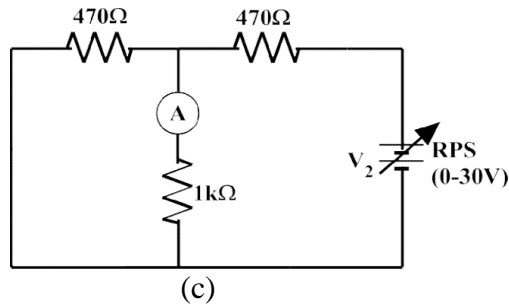

Fig2: Circuit Diagram for Superposition Theorem
1. Connect the circuit as shown in the Fig2(a), apply some input voltage V_1 and V_2 and observe the current (I) through the $1\text{k}\Omega$ resistor.
2. Connect the circuit as shown in Fig2(b), and apply the same voltage V_1 as in step 1 and observe the current (I_1) through the $1\text{k}\Omega$ resistor.
3. Connect the circuit as shown in Fig2(c), and apply the same voltage V_2 as in step 1 and observe the current (I_2) through the $1\text{k}\Omega$ resistor.